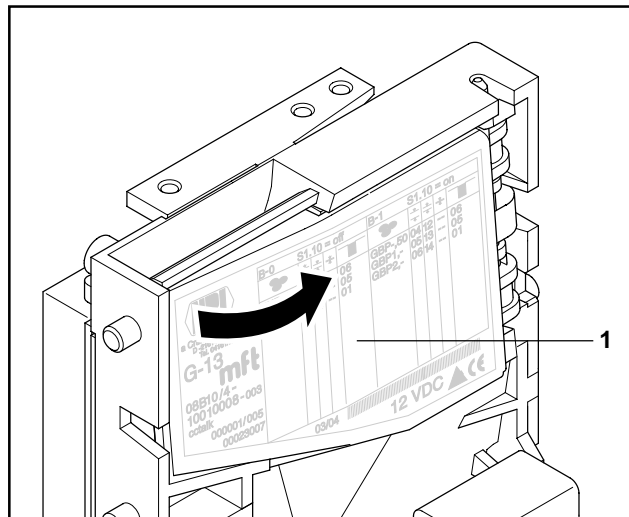

Fig. 6: Open the flight deck of the coin validator.
- 2** Carefully open the flight deck **1** on the left-hand side and hold it open (Fig. 6).